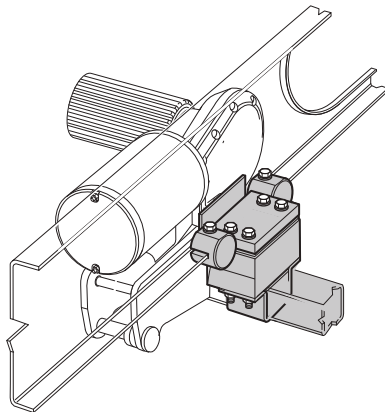

Fig. 25
- The short mounting system is used for chassis with an L-profile and where there is a lack of space, such as substructures or interfering edges (Fig. 25).